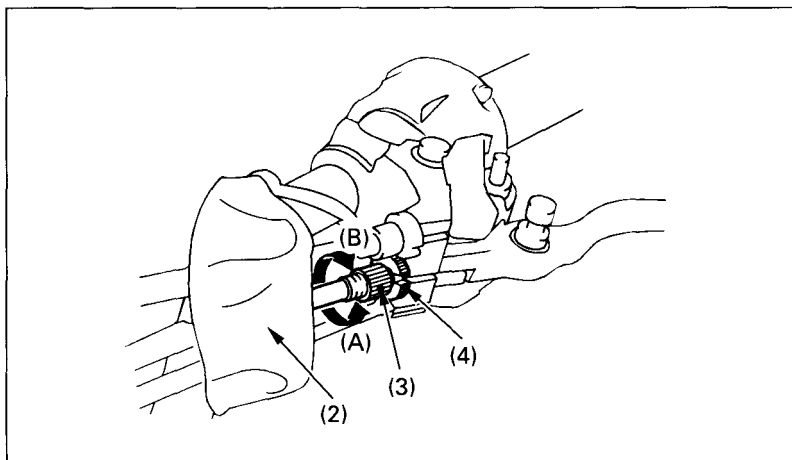

Fig. 4-18
2. Pull back the dust cover (2), (Fig. 4-18). Loosen the lock nut (4) and turn the clutch cable adjuster (3). Tighten the lock nut (4) and check the adjustment.